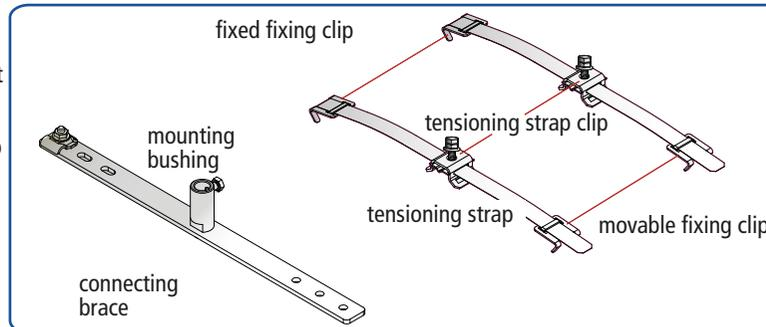

Fig. 1
- ➔ A fixed fixing clip is provided on one end of the relevant tensioning strap (see Fig. 1 and 2).
- ➔ Adjust the two tensioning straps at the desired location of the relevant ridge tile and mount them. To this end, snap the fixed fixing clip into the lower part of the relevant ridge tile. The holes (round holes, long holes) of the connecting brace define the distances between the two tensioning straps (see Fig. 1 and 2) This distance may vary between 280 and 420 mm (see Fig. 2).